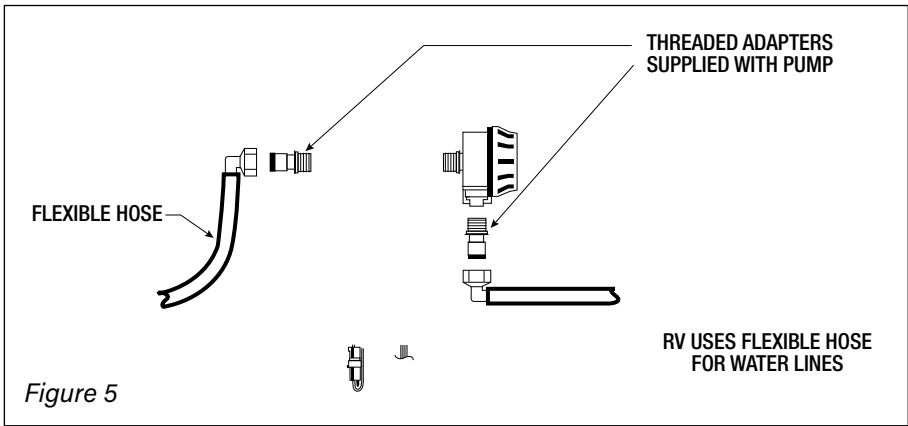

Figure 5
4. Survey the existing plumbing and identify the suction line (i.e. the line going from the water holding tank to the pump). For the quietest possible operation of the Aquajet pump, you should try to isolate the pump mechanically from your RV's typically hard Polybutylene or PEX tubing. If your RV is currently plumbed with soft-walled, reinforced hose (see Figure 5, page 5), then your system should be perfectly sufficient as is. By installing a piece of IAPMO approved cold water hose (such as 'Accuflex' Series 136) between the pump outlet port and your RV's hard plumbing, you will achieve the quietest possible pump operation. Remco also offers, as an optional accessory, a 39" long pre-assembled hose with fittings (Remco product number 25-174) that will adapt directly to the Aquajet RV and your existing plumbing. Please refer to Figure 6, page 5 & Figure 7, page 6.
5. At the end of your survey you should have determined how to wire the Aquajet pump. Your alternatives are illustrated in Figure 1, page 4 ("no change," also applicable for single switch systems), Figures 2, 3, 4 or 8, pages 4-6. You should also have determined how to plumb the pump. Your options are Figures 5, 6 or 7, pages 5-6. Always make sure you have all hardware needed before you start the actual installation.
3. Survey the existing plumbing and identify the suction line (i.e. the line going from the water holding tank to the pump). For the quietest possible operation of the Aquajet pump, you should try to isolate the pump mechanically from your RV's typically hard Polybutylene or PEX tubing. If your RV is currently plumbed with soft-walled, reinforced hose (see Figure 5, page 5), then your system should be perfectly sufficient as is. By installing a piece of IAPMO approved cold water hose (such as 'Accuflex' Series 136) between the pump outlet port and your RV's hard plumbing, you will achieve the quietest possible pump operation. Remco also offers, as an optional accessory, a 39" long pre-assembled hose with fittings.
- a. [For old pump outlets connected to hose, as in Figure 5, page 5] Insert O-ringed end of (Qest) threaded adapter into outlet port (marked with arrow pointing away from pump) of the Aquajet pump. Lock fitting in place by pushing down retainer slide.
- a. [If the Aquajet pump is to be directly plumbed to the existing inlet filter/fitting, as in Figures 5 and 6, page 5]. Insert the O-ringed end of threaded adapter into the pump's inlet port (look for arrow pointing towards the center of the pumphead). Lock fitting in place by pushing down retainer slide.
- a. [If you are plumbing per Figure 5, page 5] Place a bucket under your plumbing system's pressure hose, have an assistant open two inside faucets and drain water from the pressure line. Connect the pressure hose fitting to the Qest adapter on the pump outlet side.
20. Water should be flowing into the bucket (see Figures 6 and 7, pages 5-6) or into the sinks (see Figure 5, page 5).